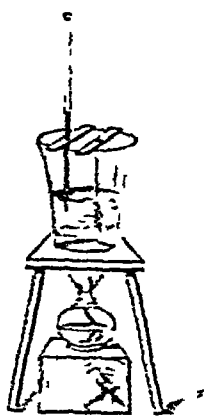

FIG 18
**Capacity for Heat.**—Roll a strip of lead weighing 1 lb into a spiral hang it by a thread in a beaker containing 1 lb of water (fig 18). Heat the water to boiling (what will its temperature be nearly? Test it with a thermometer). Provide two other beakers each containing 1 lb of water at the temperature of the room, say  $16^{\circ}$  C. Remove the lead at  $100^{\circ}$  and place it in one of the beakers of water. Then pour the pound of water at  $100^{\circ}$  into the other pound of water at  $16^{\circ}$ . Stir and note the temperatures. In the above experiment the temperature of the lead and water after mixing was  $18\frac{1}{2}^{\circ}$  C and that of the 2 lbs of water  $58^{\circ}$ .